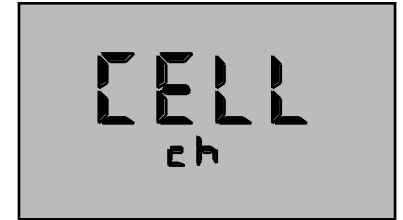

Figure 2
3. Press the **(MR)** key until **"CELL ch"** appears. Fig. 2.